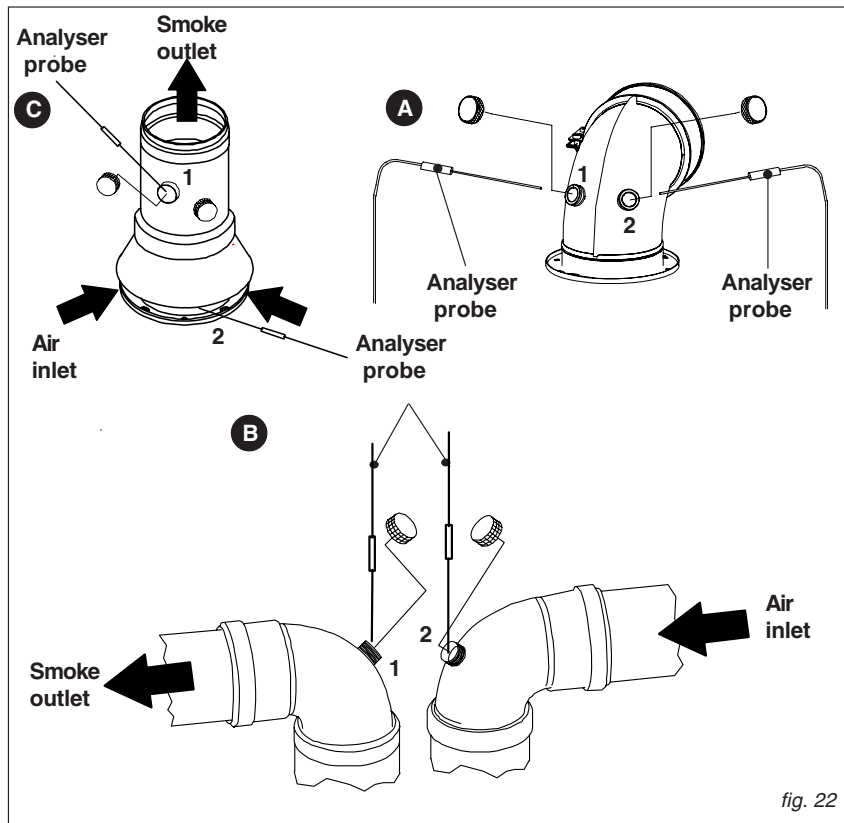

fig. 22
- the combustion air temperature measured in hole 2 (see fig. 22).
- the flue gas temperature and CO_2 % measured in hole 1 (see fig. 22).